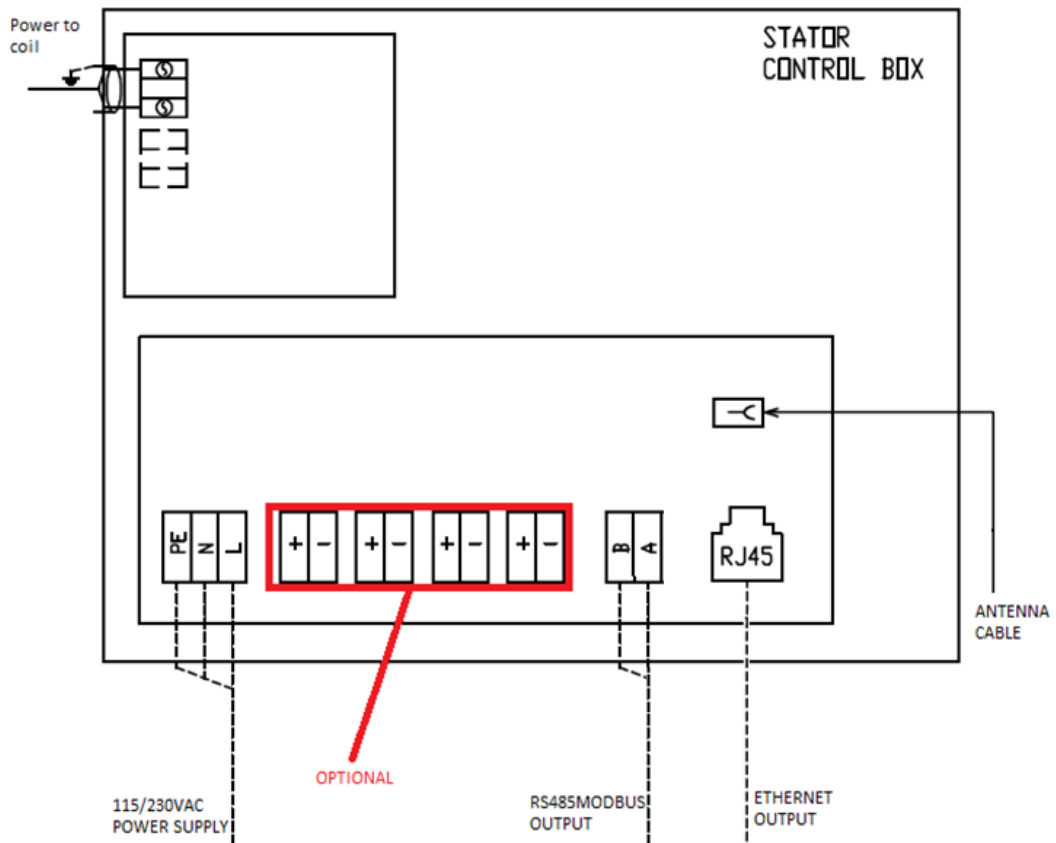

Figure 5 Connection diagram for power supply control box, power supply to stator coil, MODbus output, Ethernet output and antenna input
Disconnect power supply of the control box (terminal L, N, PE of fig. 5) and if necessary disconnect cable between control box and coil. Remove the cover of the rotor, by unscrewing the bolts at both sides of the cover and unplug the connectors of the electronics. Install transport tools for both detecting arms and rings (see 19.4 Transport/mounting tools). Now you can loosen the four M10 connecting bolts (pos.12 at drawing 0815-1209), which allow you now to remove the complete sensor from the shaft.